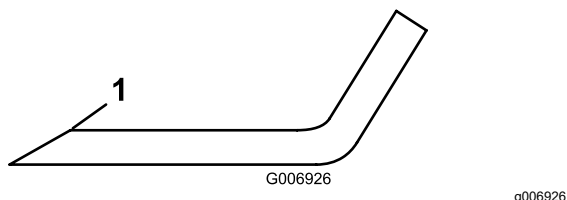

Figure 78
5. Inspect the cutting edges of all blades. Sharpen the cutting edges if they are dull or nicked. Sharpen only the top of the cutting edge and maintain the original cutting angle to make sure that it is sharp (Figure 78).
6. If dull or nicked, sharpen only the top cutting edge while maintaining the original cutting angle (Figure 78).